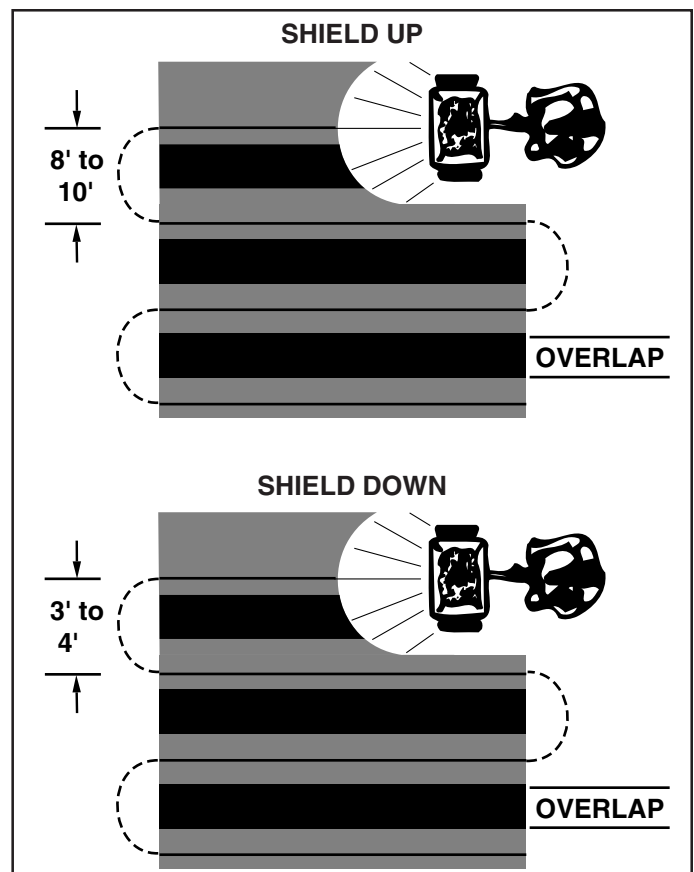

FIGURE 16
6. Overlap the spread pattern to insure uniform coverage at the edges. Approximate distance between each pass is shown in the application diagrams in figure 16.